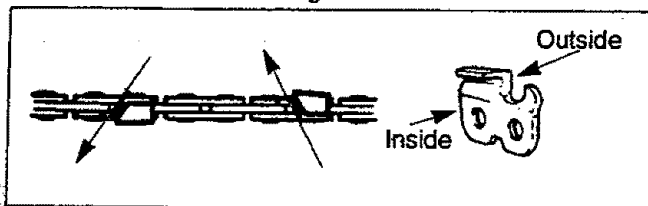

Figure 24
- Sharpen cutters on one side of the chain first. File from the inside of each cutter to the outside. Then turn your saw around and repeat the process for the other side of the chain. See Figure 24.